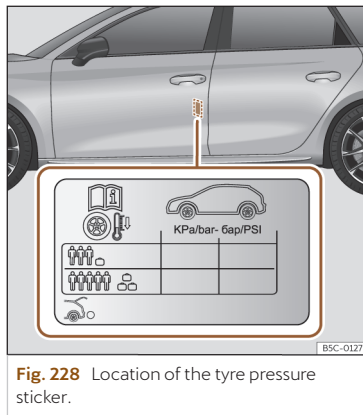

Fig. 228 Location of the tyre pressure sticker.
- Adjust tyre pressure to the load being carried by the vehicle >>> **Fig. 228**.
The values of the tyre pressure are shown on the sticker label located on the rear frame of the front left door >>> **Fig. 228.**
The tyre pressure must be adjusted according to the load the vehicle is carrying. If the vehicle is going to be fully loaded, increase the tyre pressure to the maximum load value shown on the sticker label >>> **Fig. 228.**
In the case of a minimised temporary spare wheel (125/70 R16 or 125/70 R18) inflate to a pressure of 4.2 bar as indicated on the tyre pressure label >>> **Fig. 228.**
- The driver is responsible for ensuring that all of the vehicle tyres are correctly inflated to the right pressure. The recommended tyre pressure is indicated on the label >>> **Fig. 228.**
- Tyre pressure should be that indicated on the label when the tyres are cold at all times >>> **Fig. 228.**